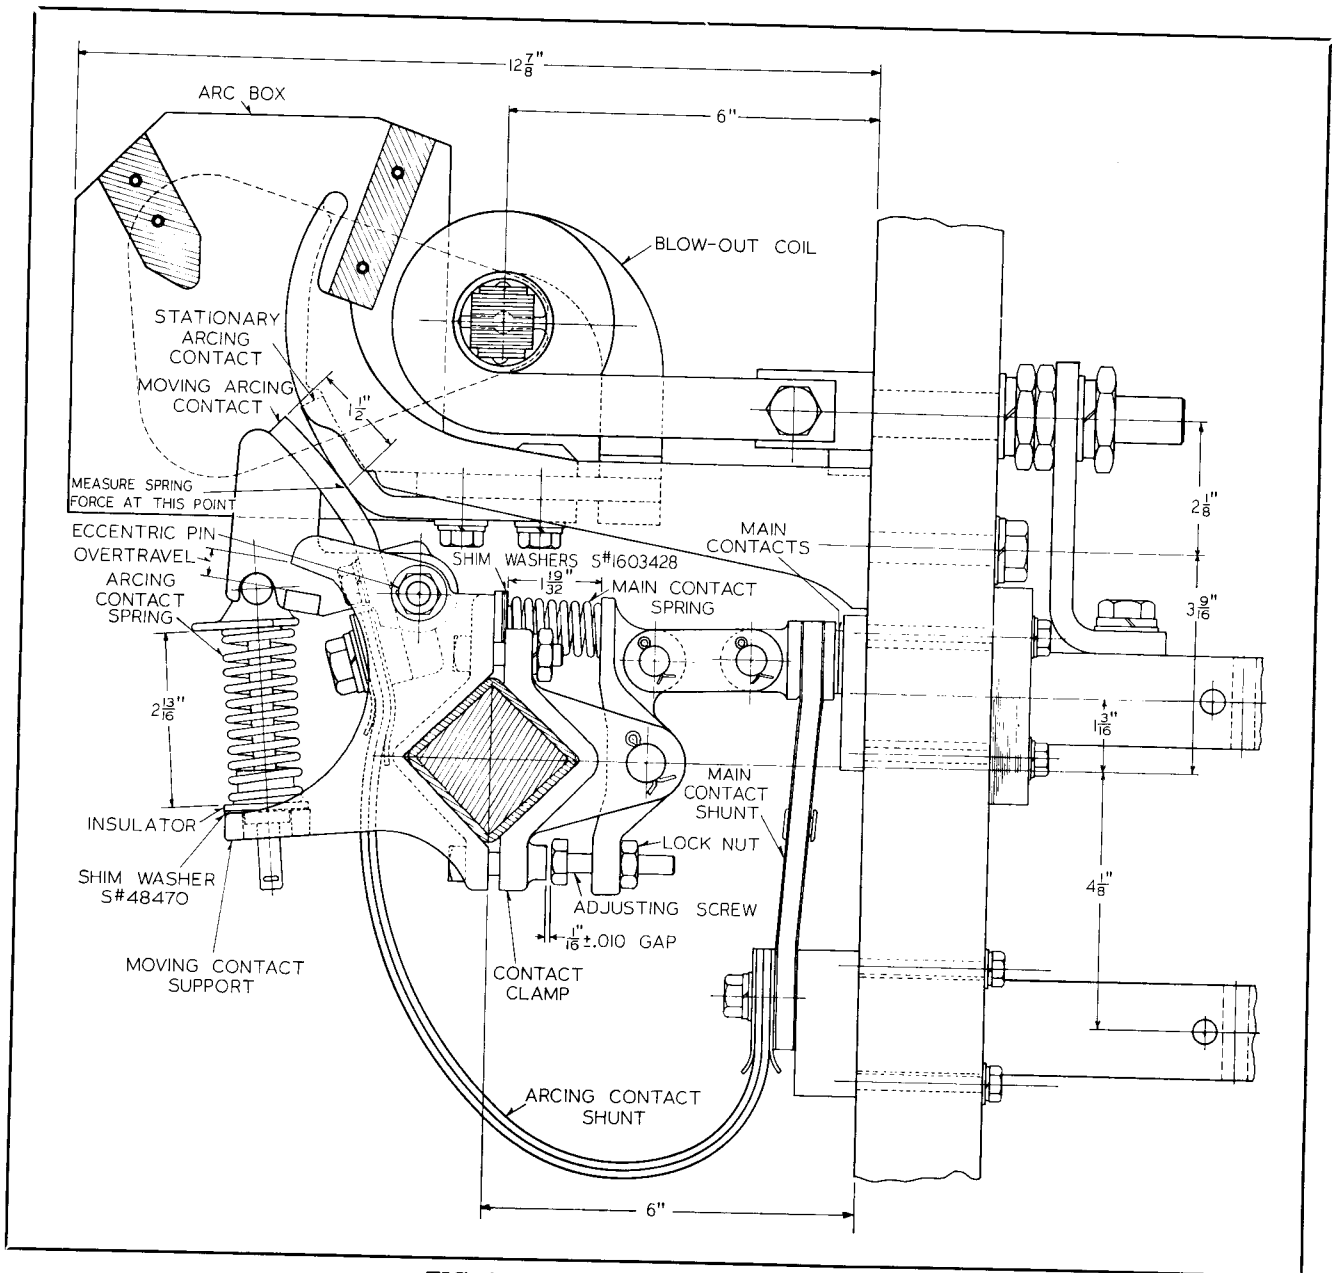

FIG. 4. Overtravel Adjustment on Size 8
- b. With main contact spring in place and magnet sealed, back off adjusting screw to provide at least $\frac{1}{16}$ of an inch clearance between head of adjusting screw and contact clamp (See Fig. 4). Then determine number of shim washers S#1603428 required under the main contact spring to give the $1\frac{1}{32}$ inches dimension for the spring length as shown in Fig. 4.
e. With magnet sealed, set adjusting screw to provide the $\frac{1}{16} \pm .010$ inch gap between adjusting screw head and contact clamp as shown in Fig. 4.
The arcing contacts should be replaced when the overtravel measured as shown in Fig. 4 is reduced to $\frac{3}{32}$ of an inch. The current-carrying contacts should be replaced when the $\frac{1}{16} \pm .010$ inch gap is reduced to .015 of an inch.